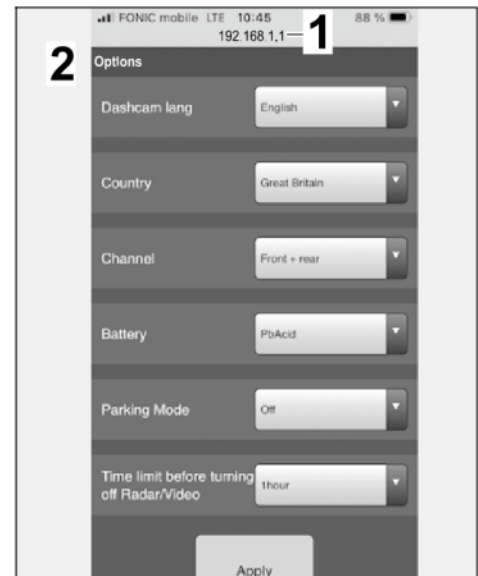

Figure 19
Options: (⇒ *Figure 19*)
5.3 Basic settings for front camera (dashcam) in the "Options" menu item (⇒ *Figure 19*)